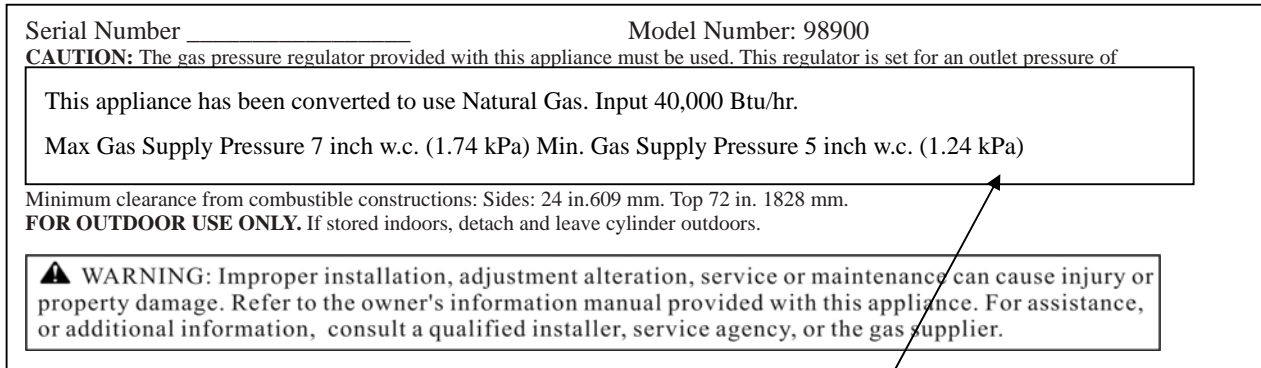

Figure 11
4. Stick the conversion label on the rating plate as shown in Figure 11.